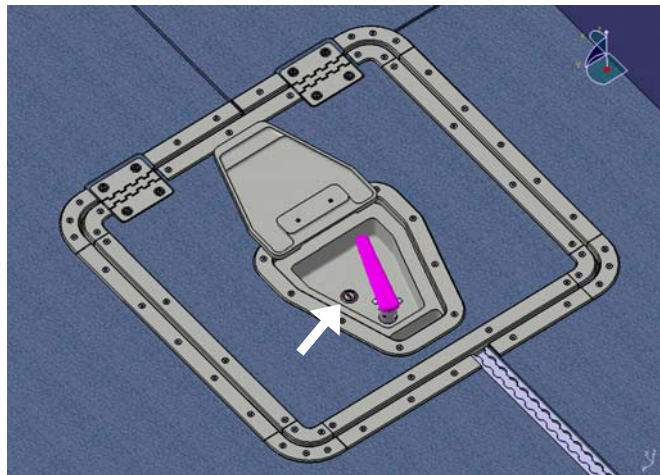

Fig. 15. Lock location
2. Install all the parts showed in the figure 15, using only the big nut to keep them fixed. This nut is for adjustment only. It is not necessary to tighten the nut too much.